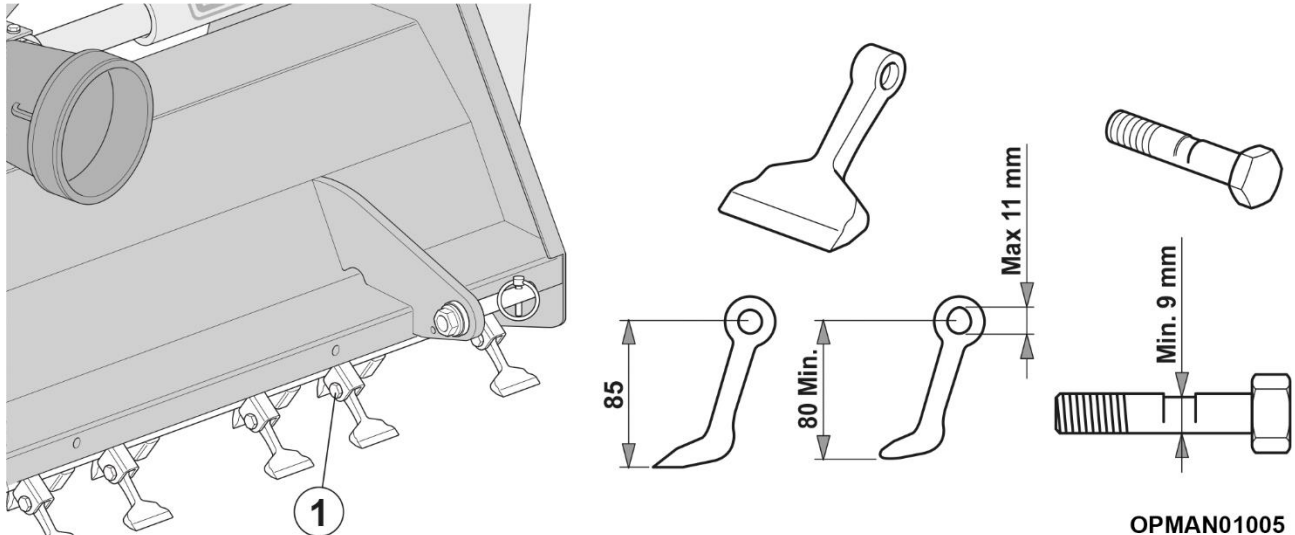

Figure 14
For worn flails and bolts (see Figure 14):
- The special bolts must be replaced to fasten the flails if visibly damaged, bent or ovalized to the limit (see Figure 14).